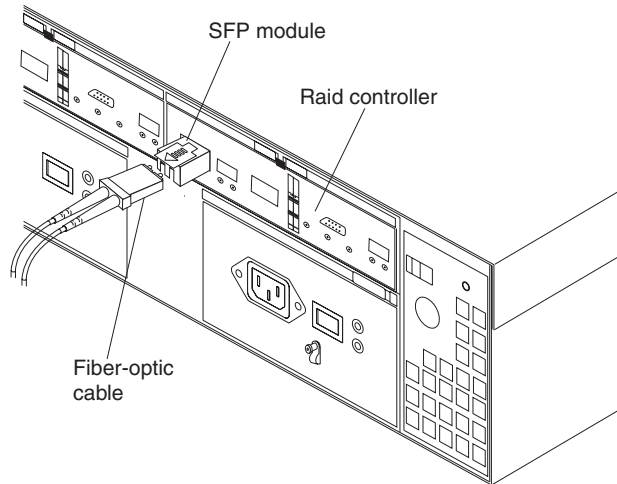

Figure 31. Installing an SFP module into the host port
4. Insert the SFP module into the host port until it clicks into place. See Figure 31 on page 36.